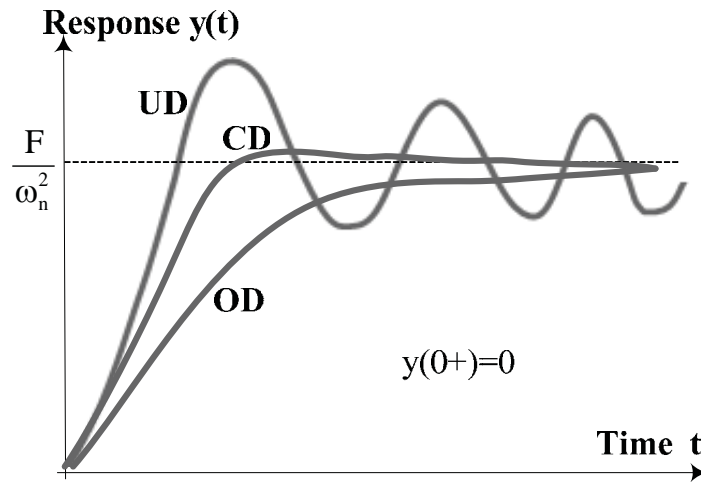

Figure 4.2: Second-order transient (step) responses
The three response types are shown in Figure 4.2 for a second-order circuit which has a zero initial condition and a positive DC steady state value. The OD and CD responses shown are similar to an ‘exponentially rising’ first-order response. The UD response, however, is characterized by an ‘overshoot’ ; it is a response which oscillates around the steady state value before settling down. The UD response, which is the fastest of the three response types, has important engineering applications.
**RLC Circuit:** Figure 4.8(c) shows a series-RLC circuit, in which the step response of  $V_c$  is of the type shown in Figure 4.2. For the circuit  $\alpha = R/2L$  and  $\omega_n = 1/\sqrt{LC}$ , so that for critical damping (CD),  $\alpha = \omega_n$  gives the result  $R = R_c = 2\sqrt{L/C}$ , and  $R_c$  is called the Critical Resistance. For  $R < R_c$ , the circuit response will be under-damped (UD) and for  $R > R_c$  the response will be over-damped (OD)